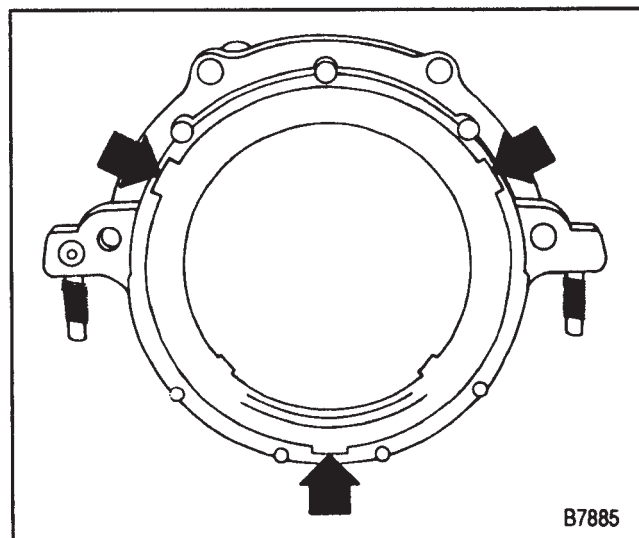

Figure 27—Seal Removal Notches
### Remove or Disconnect (Figure 27)
3. Crankshaft rear oil seal. Insert a screwdriver into the notches provided in the seal retainer and pry the seal out (figure 27). Take care not to damage the crankshaft sealing surface.
### Remove or Disconnect (Figures 27 and 29)
4. Screws (80) and nuts (81).
5. Seal retainer (82).
6. Gasket (84).
7. Crankshaft rear oil seal. Insert a screwdriver into the notches provided in the seal retainer and pry the seal out (figure 27). Take care not to damage the crankshaft sealing surface.